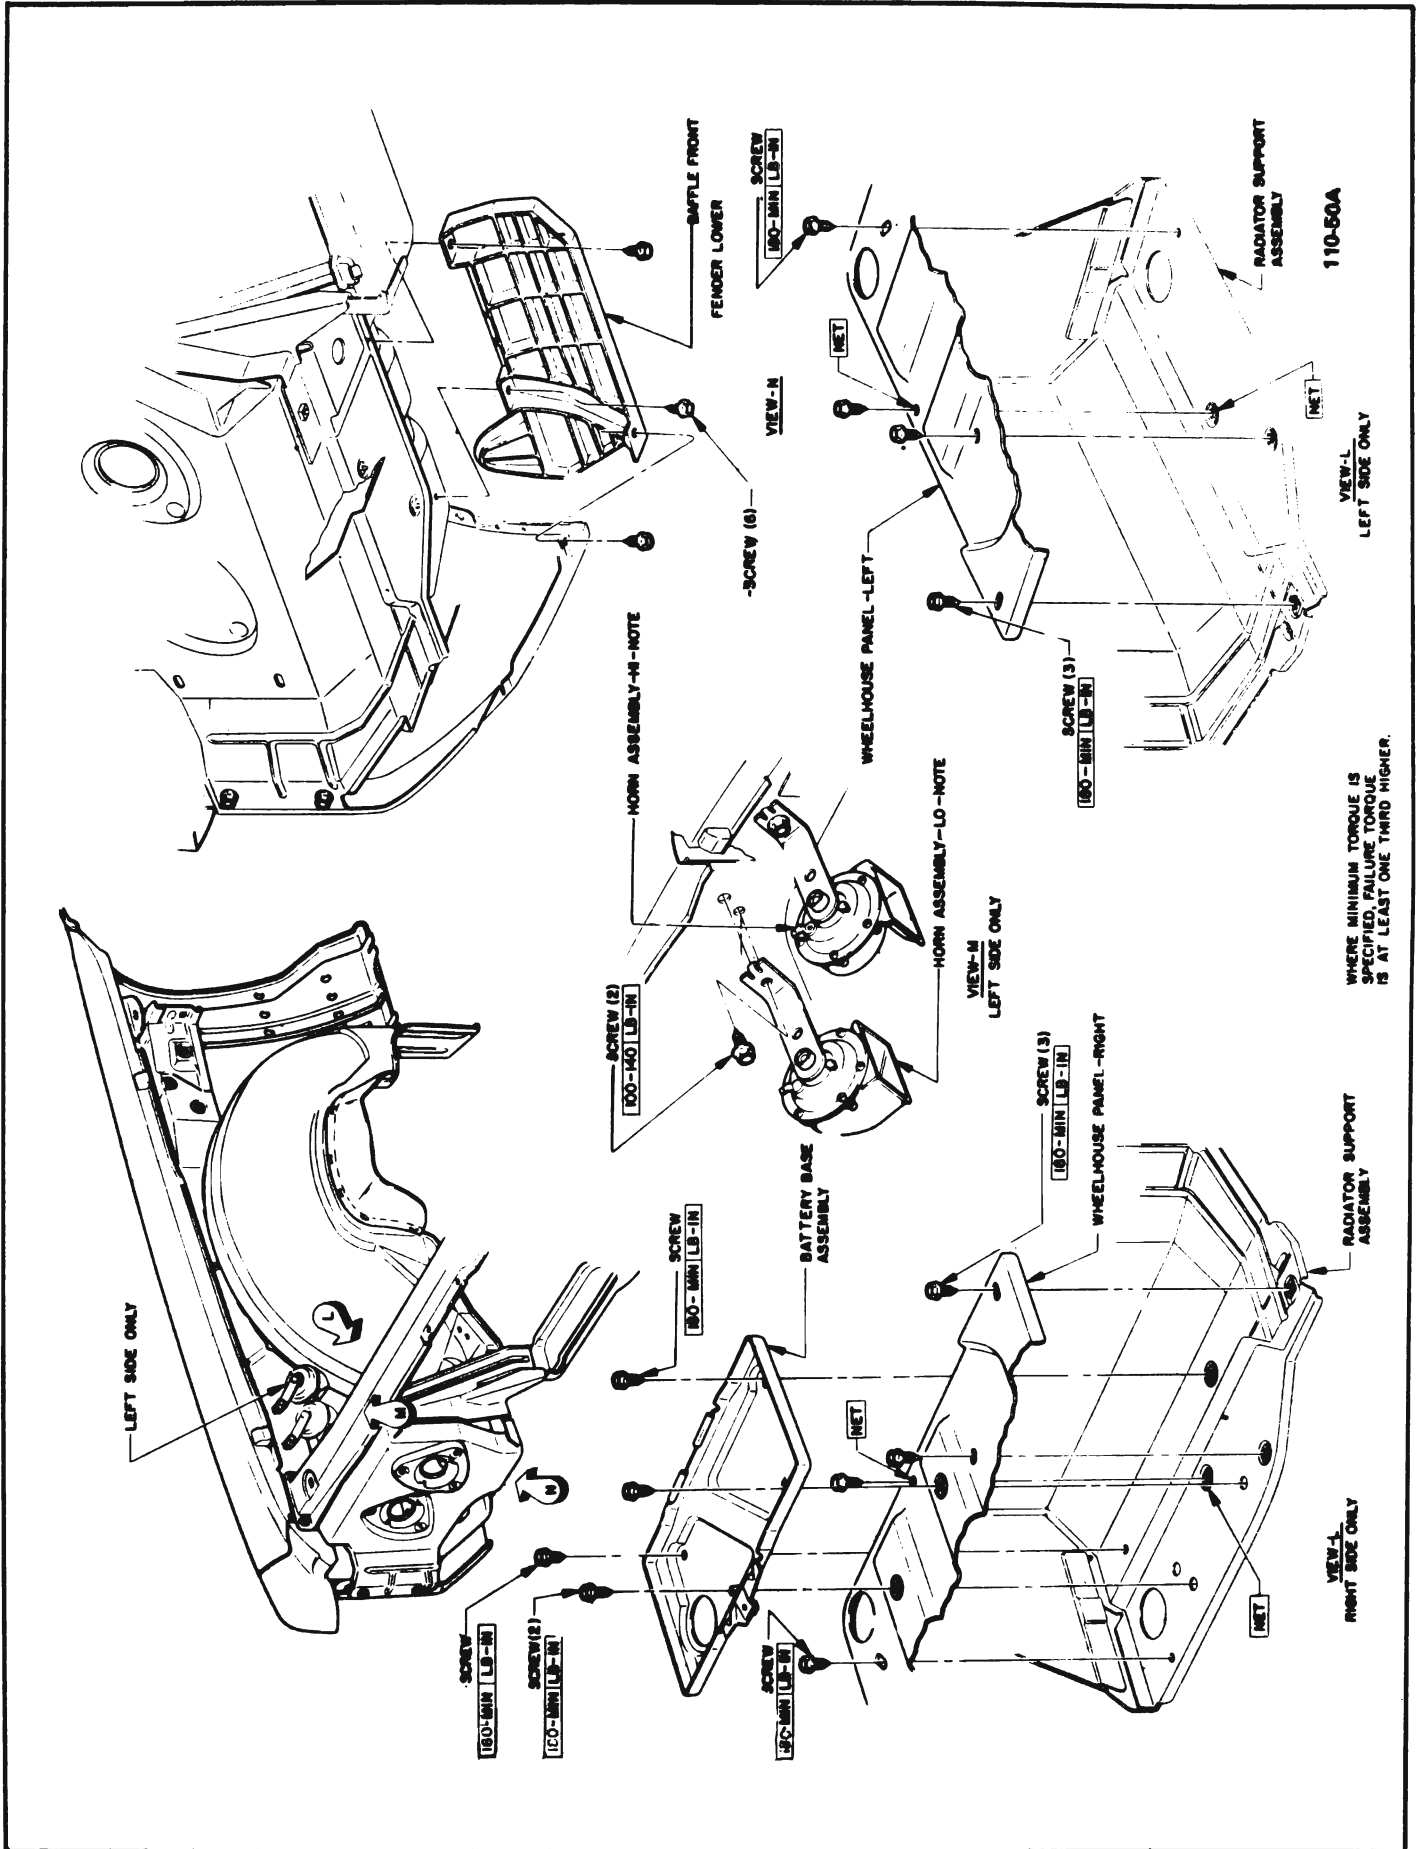

Figure 110-15 45-46-48000 Fender, Horn, Battery Base
3. Remove four bolts securing battery base to support and fender skirt. Lift out battery base. See Figure 110-15.